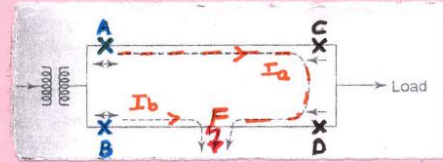

Fig 2.9 Protective scheme for Parallel Feeders
* Fig 2.9 shows an over-current Protective scheme for Parallel feeders.